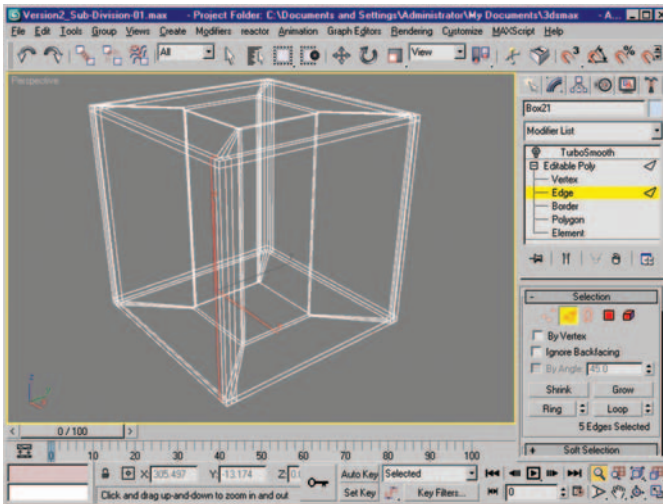

Figure 6.40 Edge selection, five edges total.
6. Select the five edges shown in Figure 6.40.